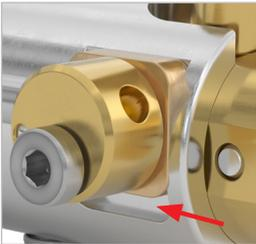
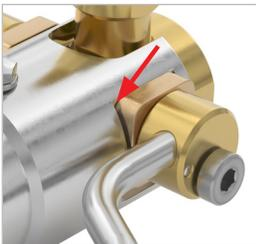

Figure 12
Figure 13
- ▶ Apply with a small screwdriver a thin film of WEH® Lubricant between the cams (red arrow, *Figure 12* and *Figure 13*). **Attention:** The lubricant must not be allowed to enter the gas channel.